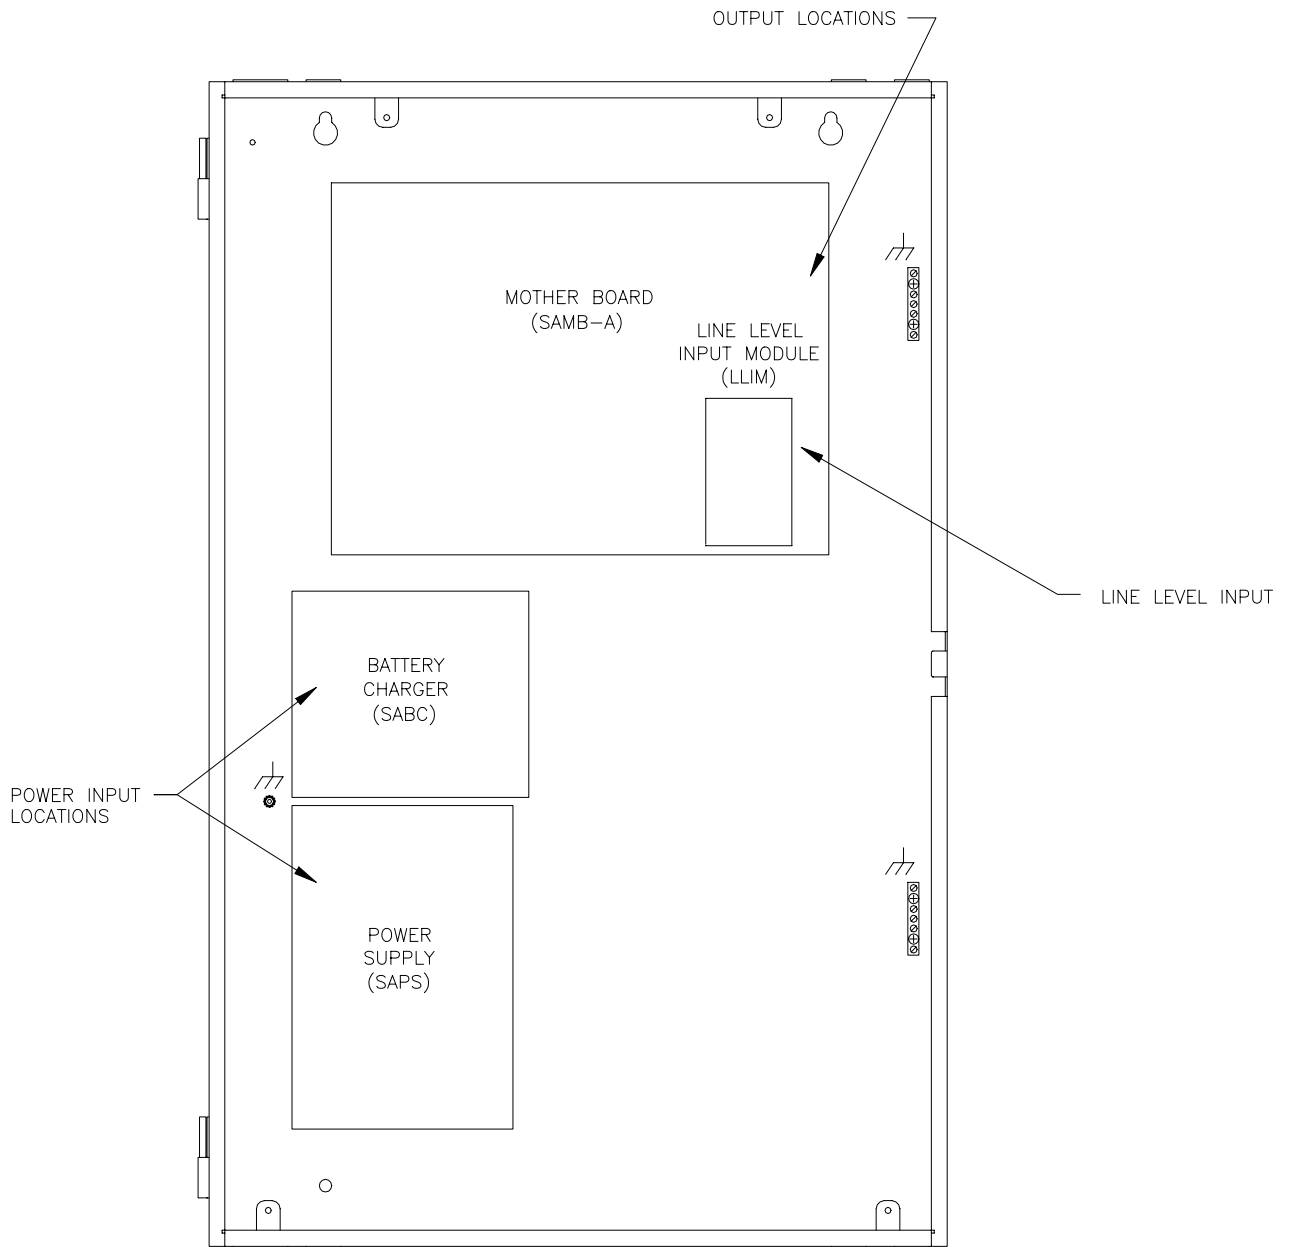
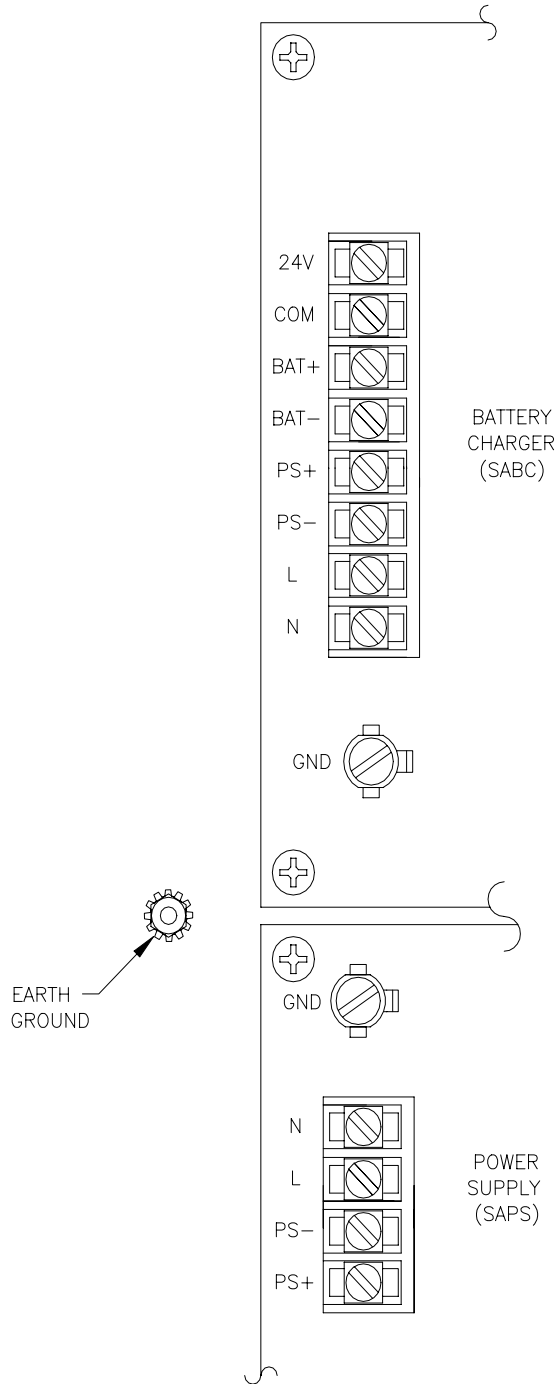
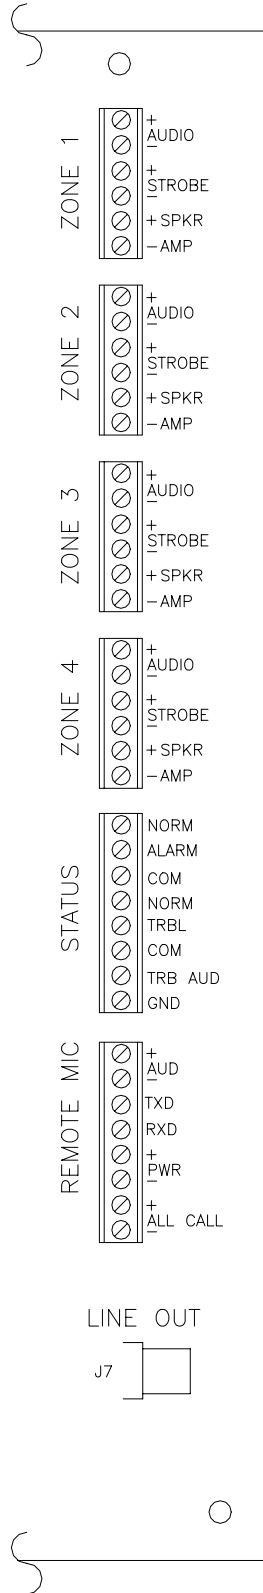

Figure 5.
Figure 6.
Figure 11.
1. Connect a wire between the ground lug (labeled "EARTH GROUND") in Figure 6 and earth ground.
This panel has four types of inputs, the locations of which are shown in Figure 5. Detail of the power input and ground terminals is shown in Figure 6.
This panel has six types of outputs. The location of the outputs' terminal blocks within this panel are shown in Figure 5. Detail of the terminal blocks is shown in Figure 11.